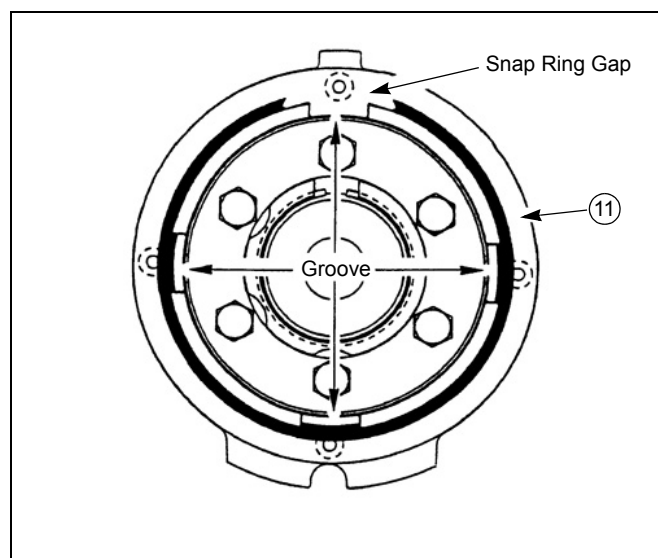

Figure 2-65
2. When installing the snap ring ⑪, for brake disc, make sure it's gap position is as shown in Figure 2-65.